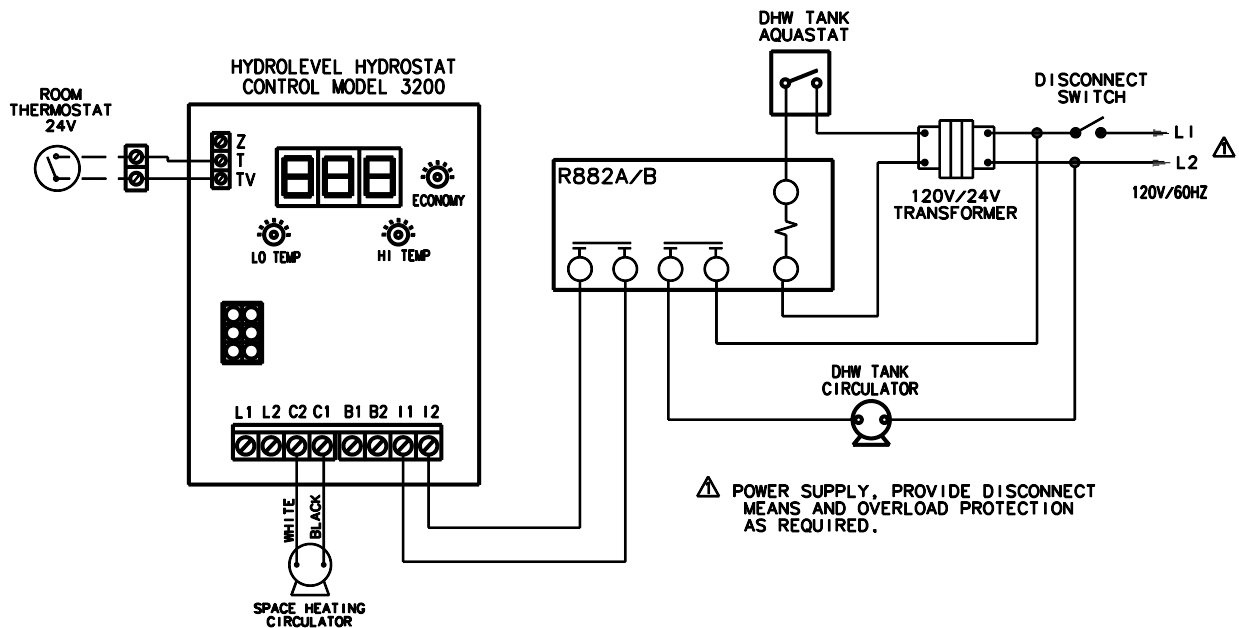

Figure 9. Single zone with indirect water heater (DHW Priority) using R882A/B relay.
**Note:** For single heating zone with external indirect water heaters, see figure 9.